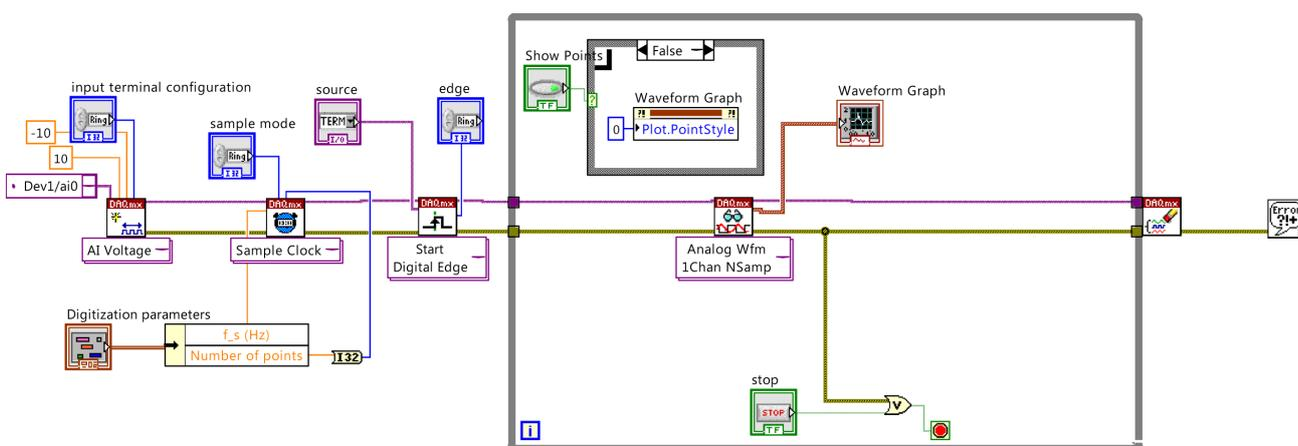

Figure 6: Candidate block diagram for a high-end digital oscilloscope.
8. We will now attempt to make a more sophisticated digital oscilloscope using DAQmx VI's. These low level VI's offer greater versatility and control over the data acquisition process. Use the DAQmx Timing and DAQmx Triggering options to control the process. We will build this high end oscilloscope together. We prefer a sampling of 10 kHz and our input signals from the function generator will be in the hundreds of Hz range. Your actual block diagram may look similar to Fig. 6.